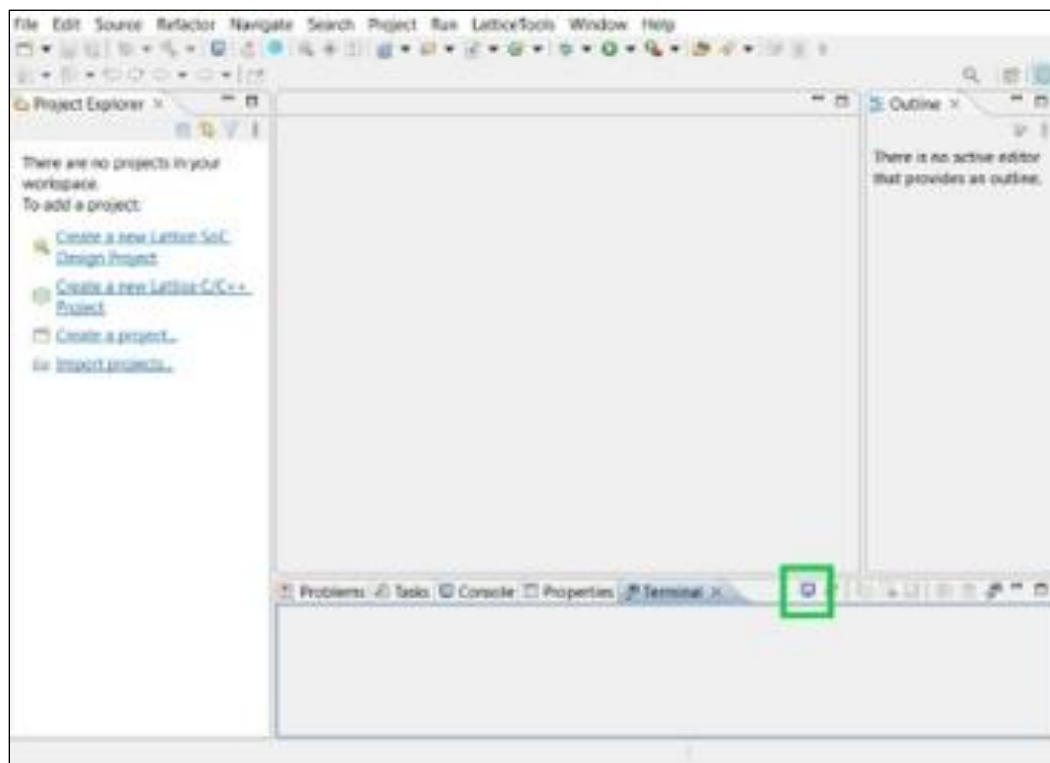

Figure C.1. Open Propel Terminal
8. Double-click the terminal button (see Figure C.1) in the bottom of Propel SDK window.